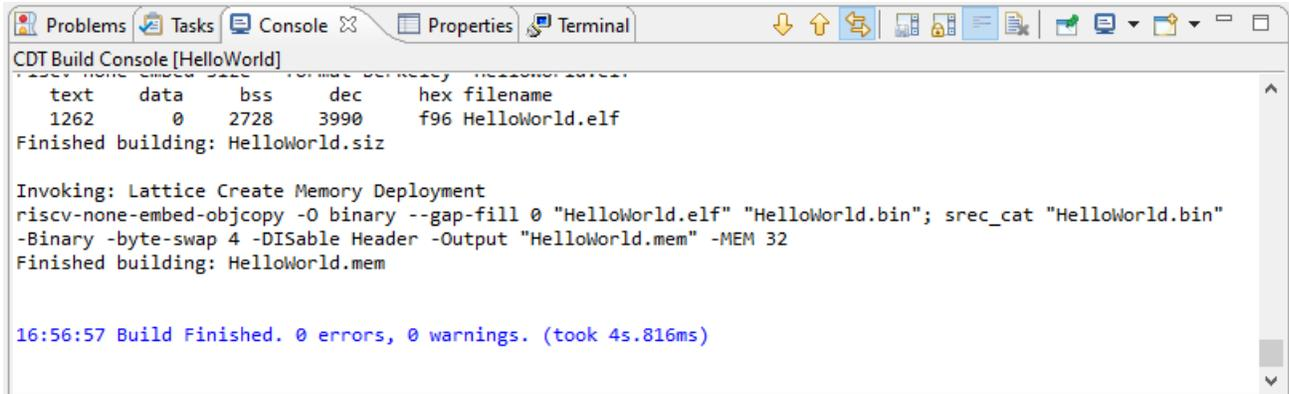

Figure 4.10. Build Result of HelloWorld C Project
7. Check the build result from the **Console** view (Figure 4.10).